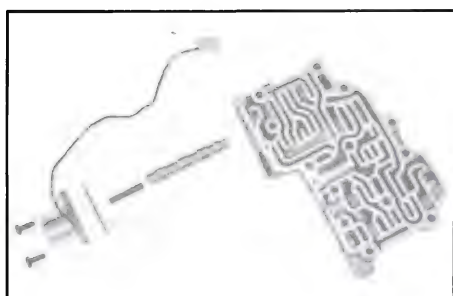

Figure 5-167
1. Remove two (2) bolts attaching stator and detent solenoid valve. Remove the solenoid valve, gasket, spring and stator and detent valve. See Figure 5-167.